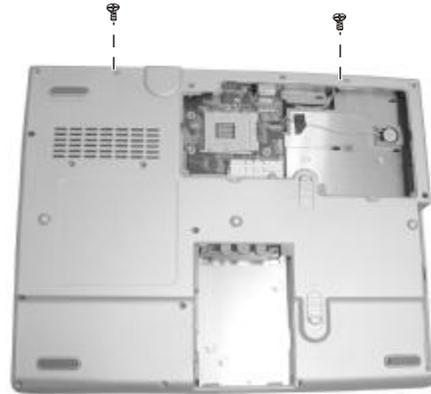

Figure 2-20 Remove the LCD assembly
8. Carefully put the notebook upside down, remove two screws of the hinges. Now you can separate the LCD assembly from the base unit. (Figure 2-20)